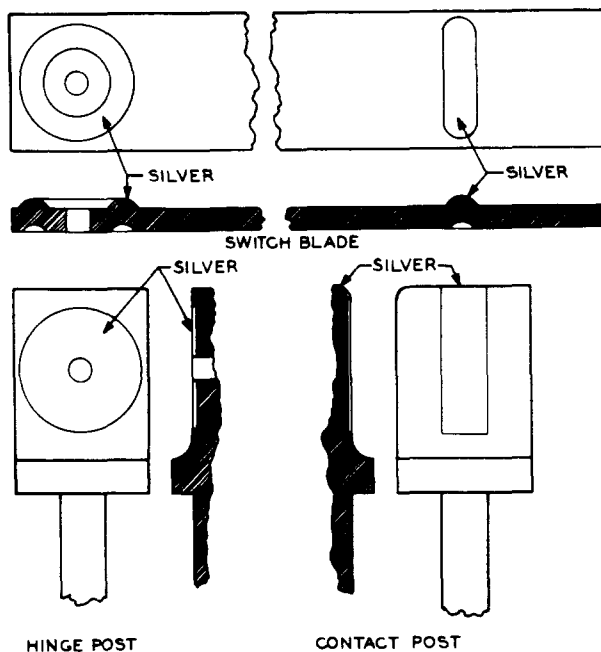

Fig. 3—Embossed Line Contact (Switch With Silvered Contact Surfaces Shown)
- (c) On switches with embossed line contacts, (Fig. 3) a 0.0015-inch gauge shall not enter at any accessible point along the contact line.